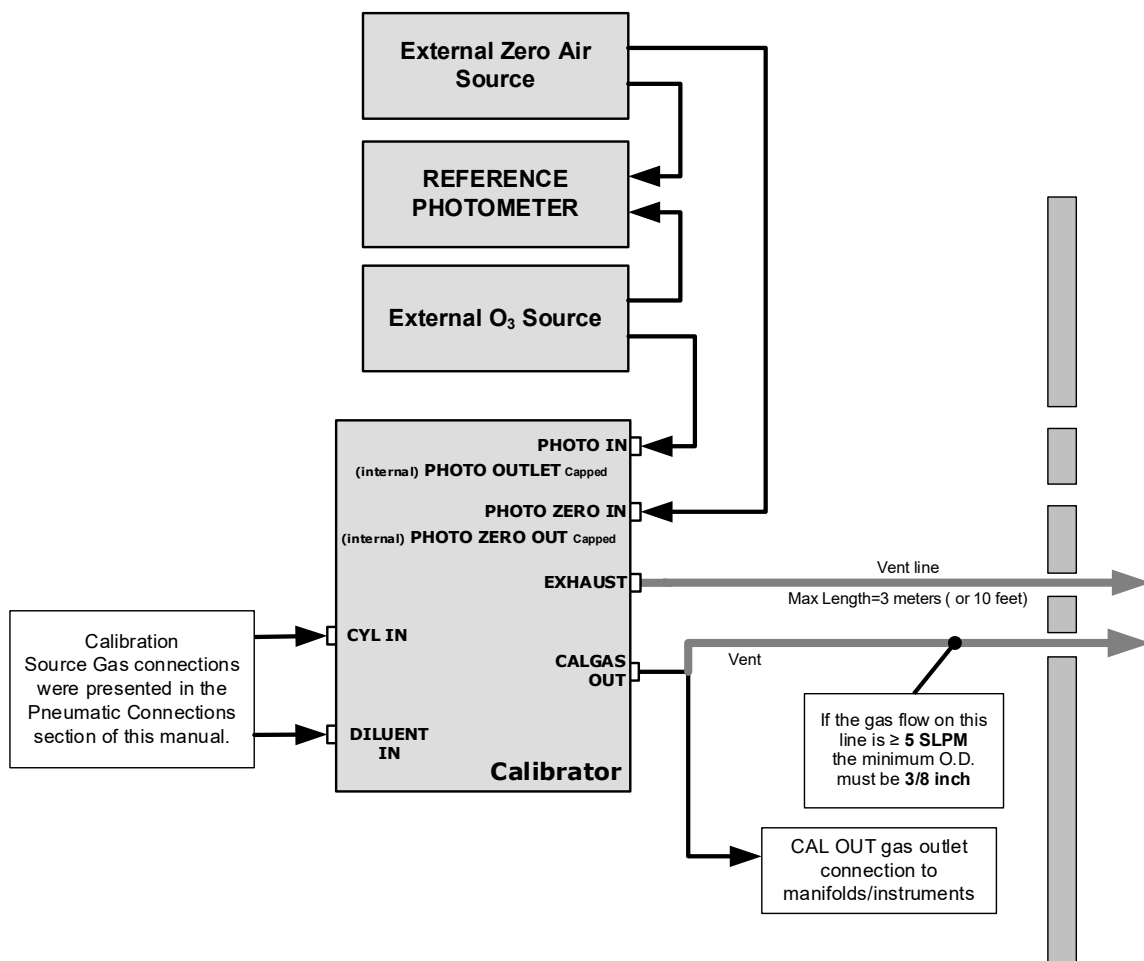

Figure 6-5. External Photometer Calibration Setup with Direct Connections
- Figure 6-5 shows the external zero air and O₃ sources as well as the reference photometer connected directly to the fixtures on the calibrator.